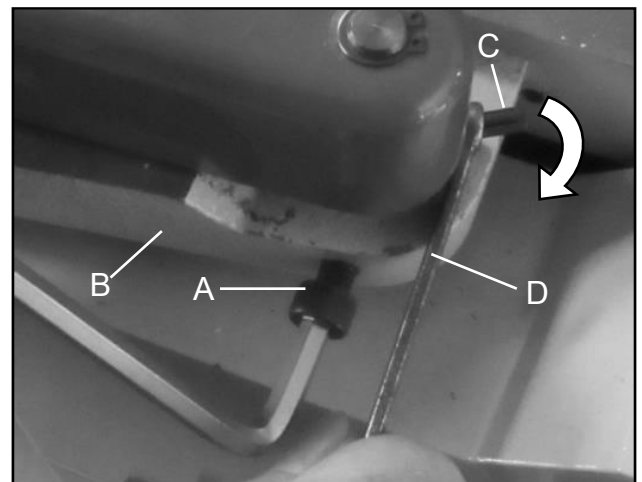

Fig. 2
1. Loosen the CAP screw (A) on the rabbet arm (B), Fig. 2
2. Insert a spanner or similar object to hole the pin (C).
3. Twist the pin (D) by spanner go to the end by clockwise and hold it there.